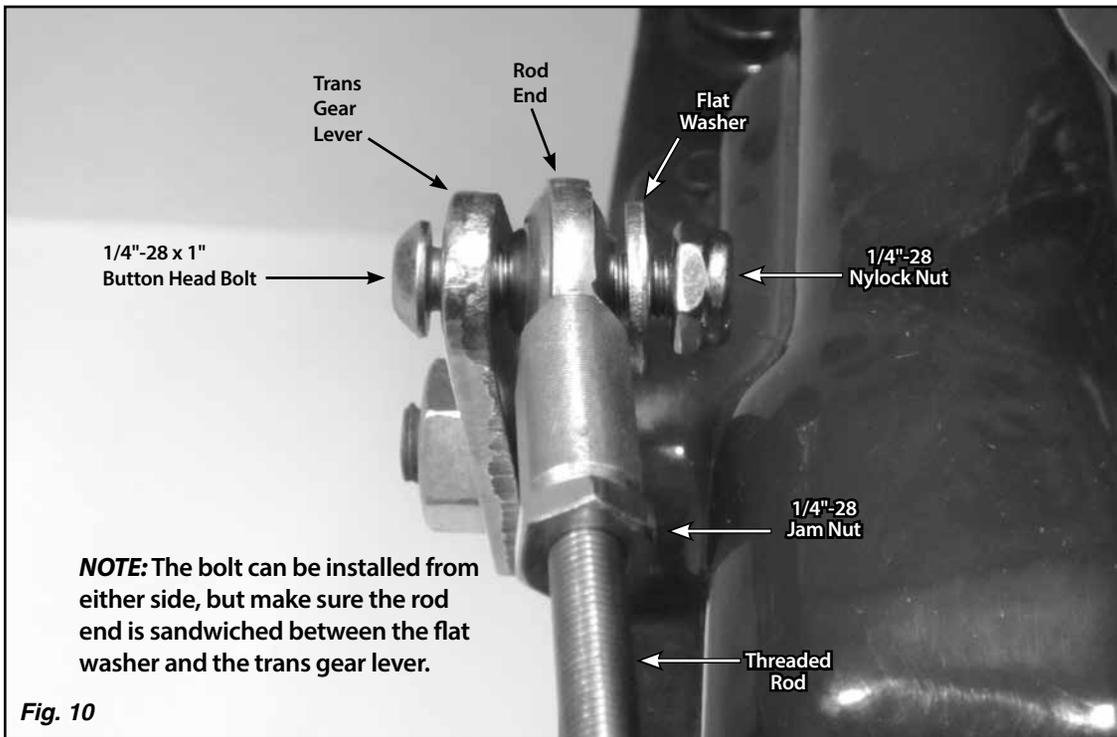

Fig. 10
Step 14: Verify that both 1/4"-28 jam nuts are on the threaded rod, and install a rod end onto each end of the threaded rod. Attach the threaded rod assembly to the **inside** of the trans gear lever and to the **outside** of the quad lever using the 1/4"-28 x 1" button head bolts, flat washers, and nylock nuts as shown in **Fig. 9** and **Fig. 10**. The button head bolts can be installed from either direction, but make sure each rod end is sandwiched between the flat washer and the trans gear lever or quad lever.